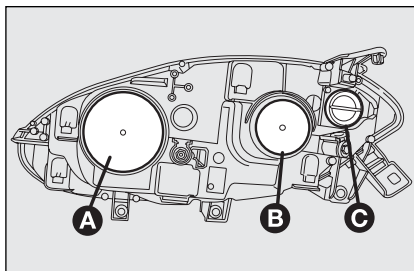
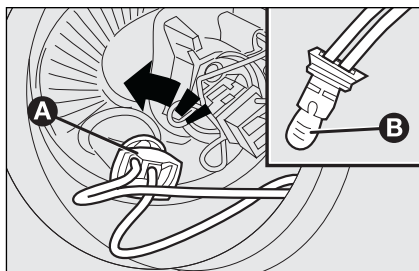

fig. 19
fig. 21
### FRONT LIGHT UNITS fig. 19
- remove the protective cover **B**-fig. 19;
- refit the protective cover **A**-fig. 19 correctly.
- remove the protective cover **A-fig. 19**;
- turn the bulb holder **A-fig. 21** counterclockwise and then withdraw it;
- fit the new bulb, refit the bulb holder **A-fig. 21** and then refit the protective cover **B-fig. 19** correctly.
- refit the protective cover **B-fig. 19** correctly.
- turn the protective cover **C-fig. 19** counterclockwise;